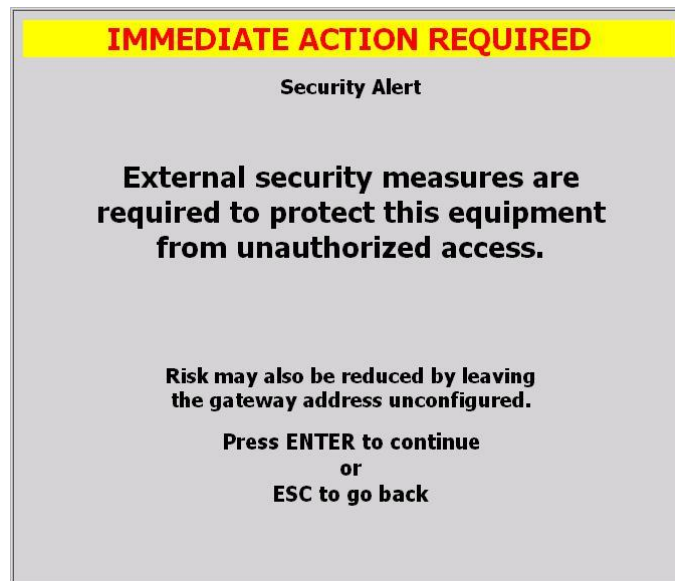

Figure 4.3-1 Network Connection Security Alert
7. Read the alert (see Figure 4.3-1) and press Enter